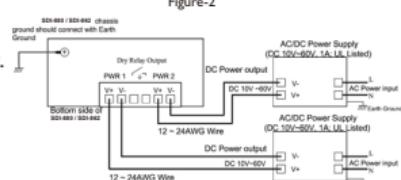

Figure-2
2. Tighten the wire-clamp screws to prevent the DC wires from being loosened. See Figure-2
2. Serrez les vis pour bloquer les fils. Voir Figure-2